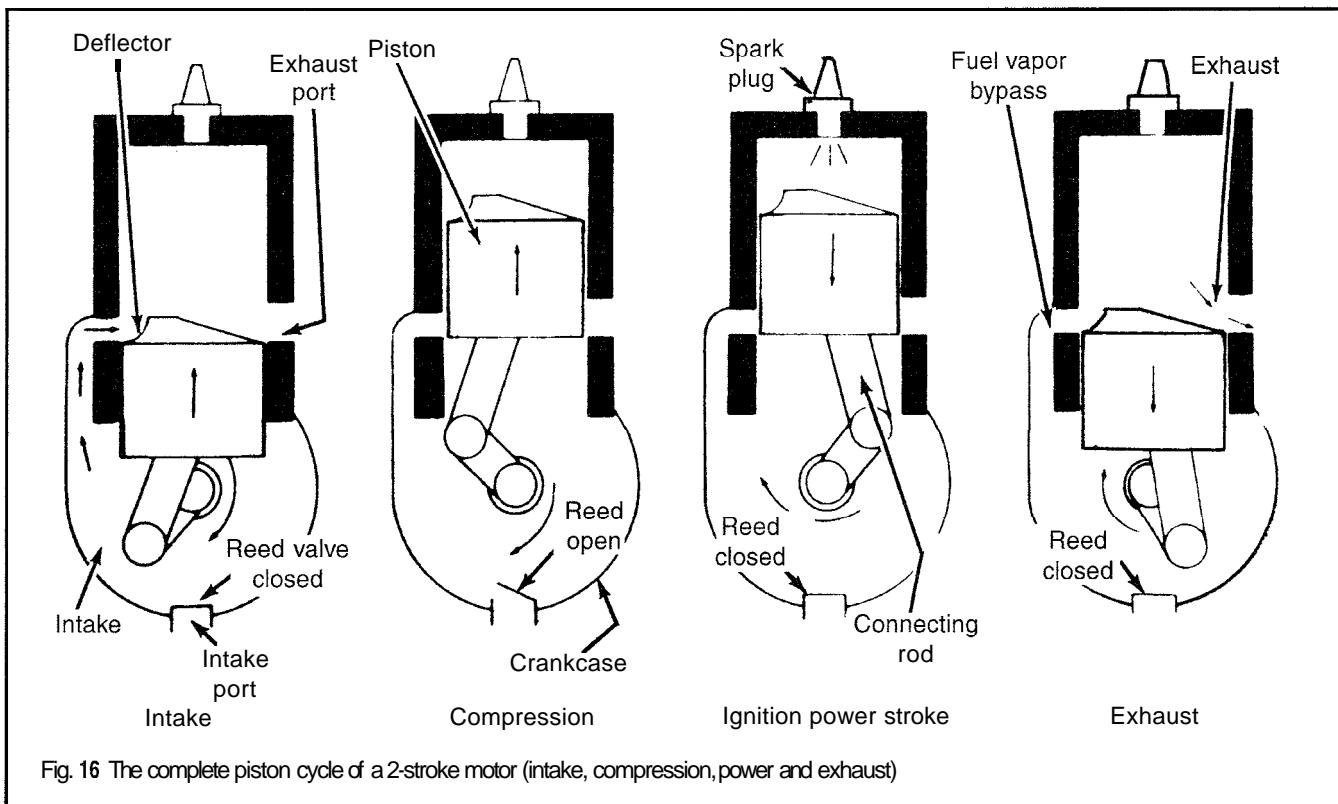

Fig. 16 The complete piston cycle of a 2-stroke motor (intake, compression, power and exhaust)
◆ See Figures 16 and 17
- ◆ See Figure 16